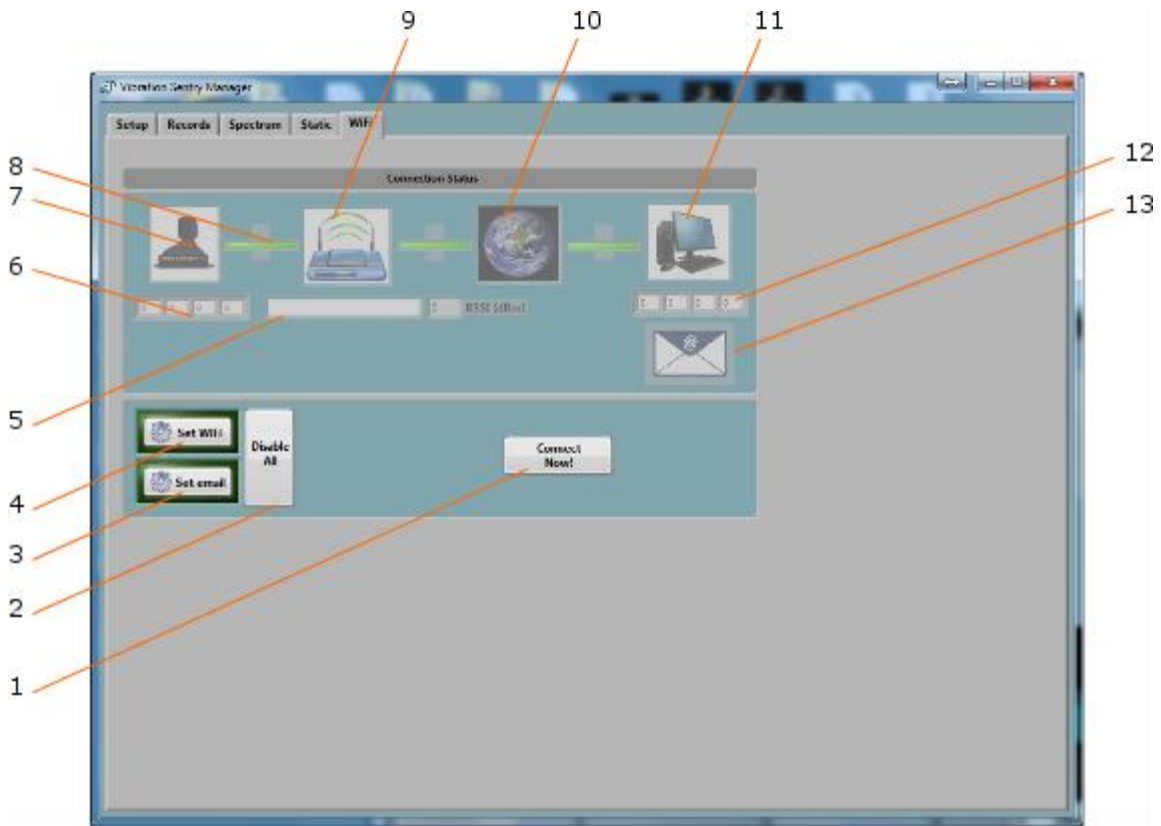

Figure 14 WiFi Tab
- **The WiFi Tab:** Is used to display the present connection state of the `VSEW_mk4`, and to setup its connection parameters (SSID, Security, Password...etc.) (see Figure 14).